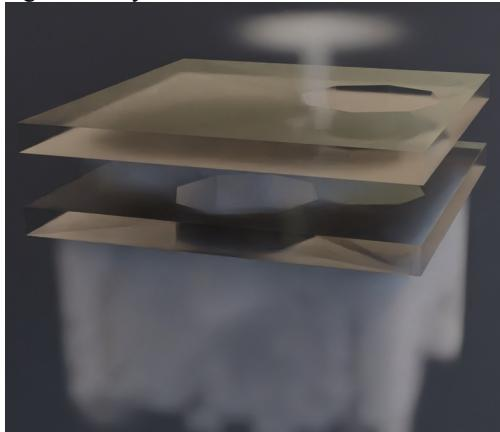
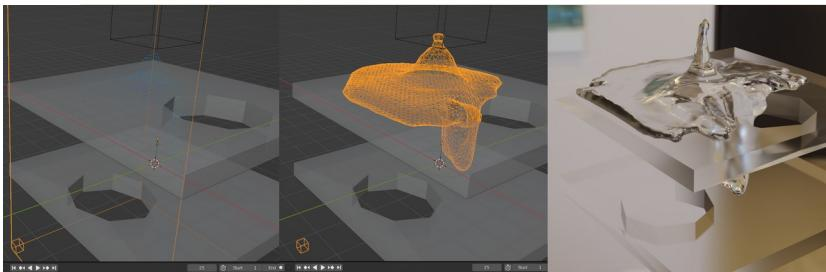

Figure 11-1 Smoke Simulation Rendered with Cycles
Figure 11-2 Stages to Achieve Liquid Simulation
2. In order to deflect the smoke you need to add a mesh object and define it as an *Effector*. Add a new cube object to the scene, scale it up so it is the same width as the fluid domain then scale it down in the Z direction so it's about half the height of the start cube. Move the new slab object up so it's about a third of the way between the start cube and the top of the domain. In Figure 11-1 you can see the size and location I used.
4. Now make a hole in the slab about a quarter of its overall width and over to one side, again, you can see the proportions I used in Figure 11-1 and Figure 11-2. The simplest way to make the
4. The domain also needs to be changed from Domain Type Gas to **Liquid**. This might make it appear solid again in the viewport display, in which case open the Object Properties tab and under Viewport Display change Display As to **Wire**. Move the Timeline to frame 1, force the simulation to re-bake if required, and you should see a box-full of generally blue particles flow out over each baffle, draining through the holes and gradually flooding the bottom of the domain. The left of Figure 11-2 shows the simulation part way through.
5. To make the liquid actually look like a liquid you need to specify it as a mesh by ticking the check-box in the domain object Physics Properties tab, and you also need to go back to frame 1 and re-run the animation. The middle of Figure 11-2 shows the same frame but with the liquid as a mesh. At this point you may decide, as I did, that the droplets are too coarse, so increase the Resolution Divisions to 64. Changing this value will trigger a re-bake of the simulation so you don't need to do anything apart from return the frame pointer back to frame 1. Notice how much slower the first run through the animation is.
the Material Properties tab and change the surface shader to **Glass BSDF**, giving it an IOR of **1.33**. When you view this as a render preview, with the cycles render engine, it should look a little bit more watery but rather lacking in reflections and somewhat turbid. That's because the quick smoke effect added a volume shader to the material, so remove that. You should also set the object shading to smooth and, to provide some more interesting reflections, change the world background color to an environment texture. The right side of Figure 11-2 shows the final render.